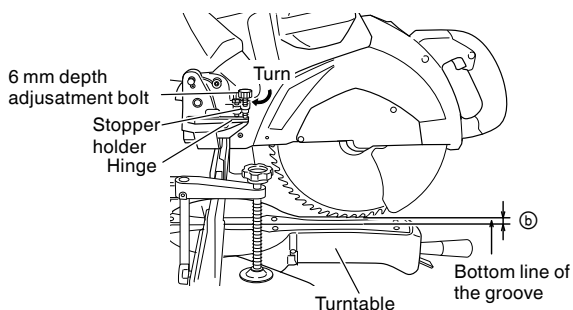

Fig. 48
- (1) Turn the stopper holder on the direction shown in Fig. 48. Lower the motor head, and turn the 6 mm depth adjustment bolt by hand. (Where the head of the 6 mm depth adjustment bolt contacts the hinge.)